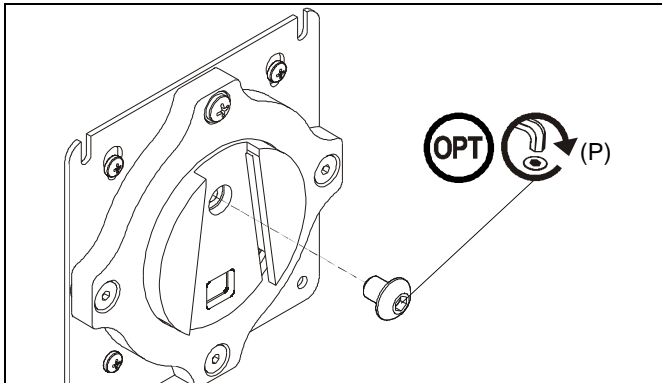

Figure 19
NOTE: (Optional) Rotational adjustment may be locked by installing rotational locking screw (P) into back of faceplate. (See Figure 19)